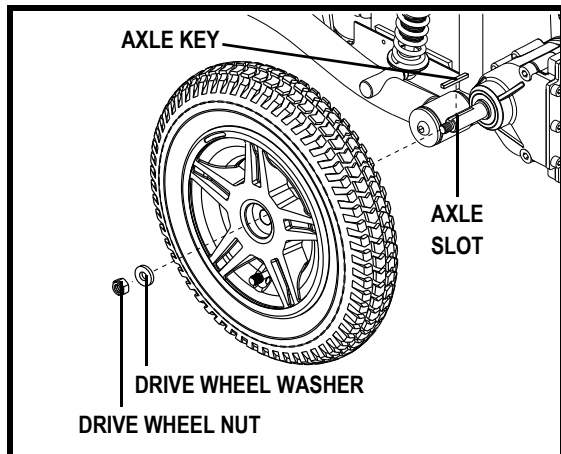

Figure 21. Jazzy 614 Series Drive Wheel
4. Remove the drive wheel nut and washer from the axle. See figure 21.